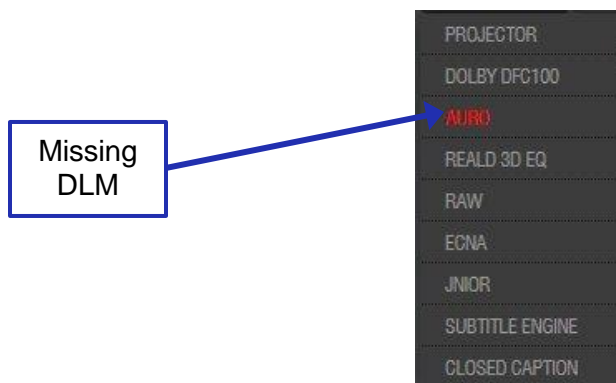

Figure 127: Add Device Drop-Down Window
- The New Device drop-down menu window will appear (Figure 127):